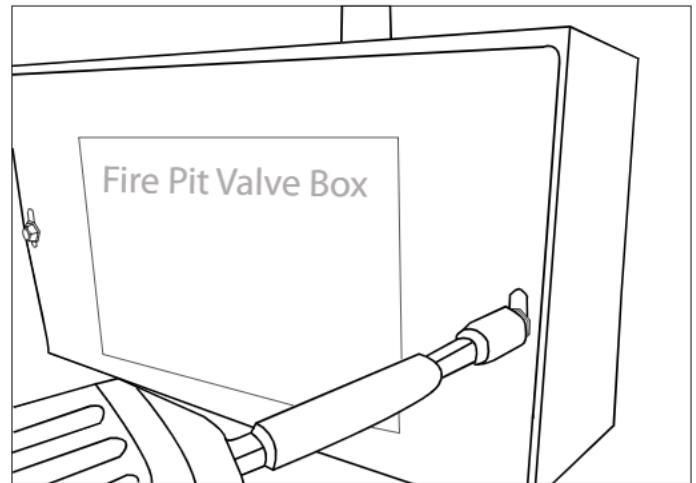

Fig. 9 Removing the cover from metal box.
1. Remove the two screws securing the cover on the control box (See Fig. 9). The cover will slide down exposing the gas valve and control module.